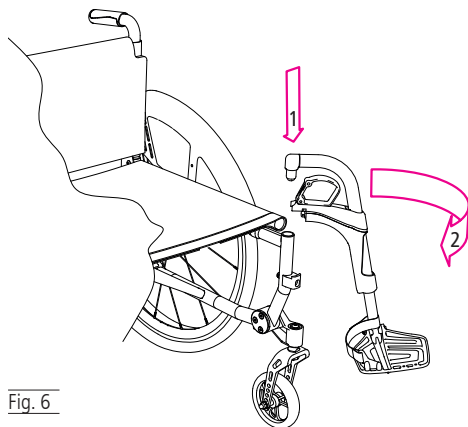

Fig. 6
1. Insert the upper pin of the leg rest from above into the holder provided on the frame (1, Fig. 6).
2. Now swivel the leg rest forwards in the direction of travel. It then engages audibly and noticeably into its end position (2, Fig. 6).